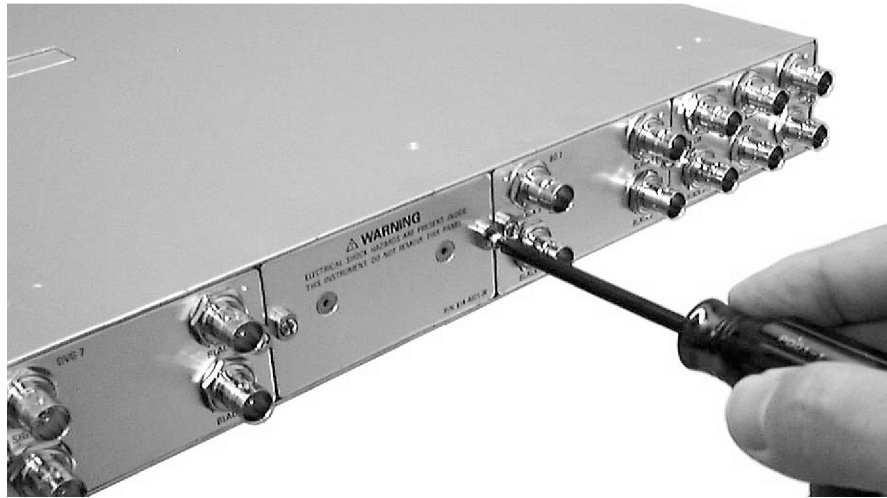

Figure 4: Removing the blank panel
3. Use a screwdriver with a #1 Phillips tip to loosen the two screws of the blank panel attached to the slot you want to use, and then pull it away from the instrument. Save the blank panel for future use. (See Figure 4.)